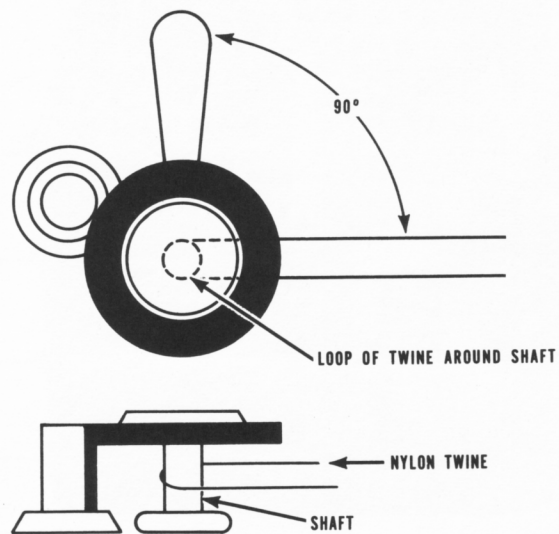

Fig. 4-3 Measuring Capstan Idler Pressure
Step 2: Tie the two ends of the cord or twine together, so that it forms a continuous loop. Place one end of the loop over the capstan idler and position it on the idler shaft (between the idler and arm, see Fig. 4-3).